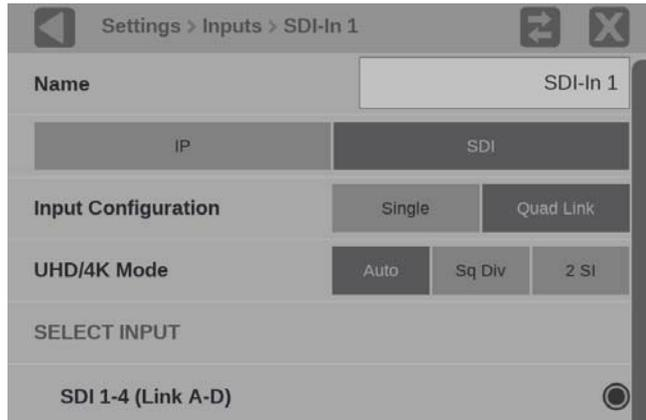

Figure 30: Quad Link SDI signal configuration
5. Select **Quad Link** for the Input Configuration. SDI 1-4 (Link A-D) is selected by default. (See Figure 30.)